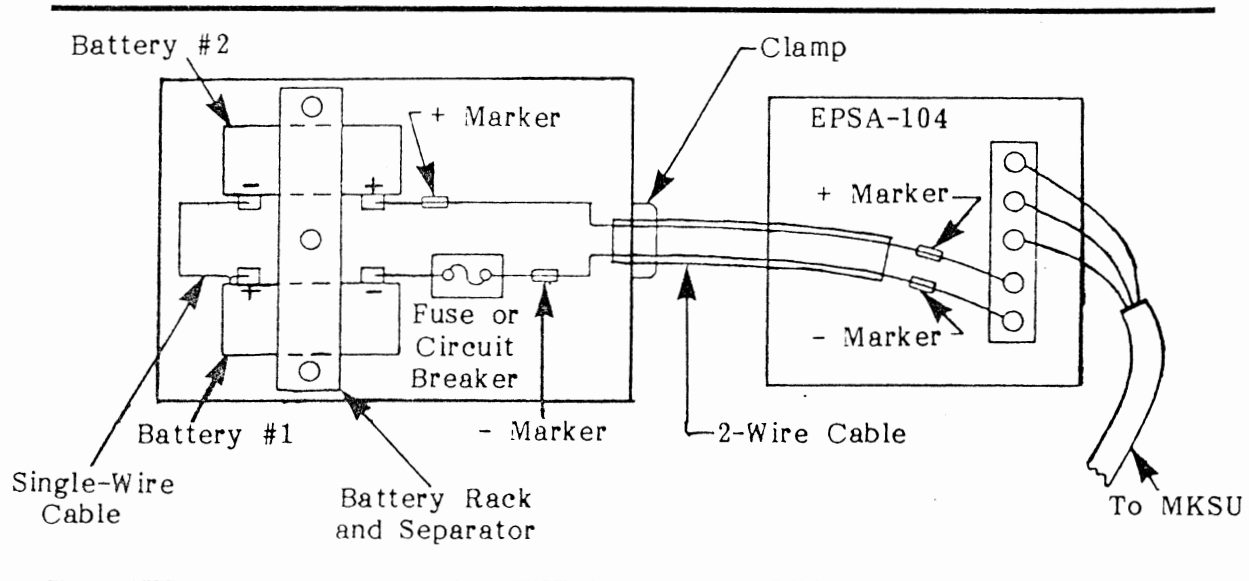

FIGURE 18
02.48 Connect the two batteries with the single-wire cable—one end to the positive terminal on battery #1 and the other end to the negative terminal on battery #2 (Figure 18).